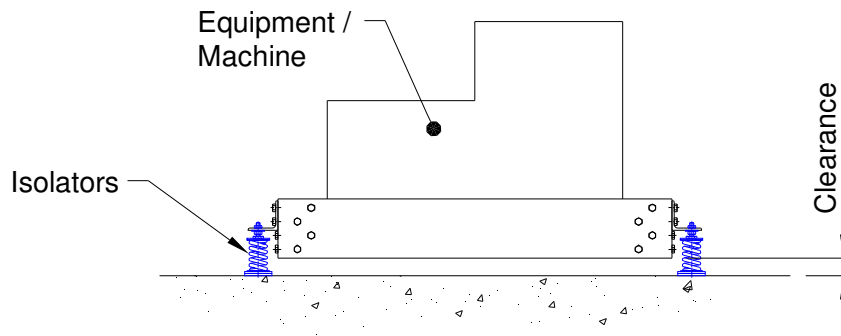

Figure 6
- 8) The selected isolators can now be installed and the top screws adjusted or shimmed to the underside of the supporting brackets. The hydraulic jacks can now be repositioned and raised sufficiently only to remove the blocks. The jacks can then be lowered and removed, whereupon the isolators will take the full load of the equipment and inertia base weight (See figure 6) .